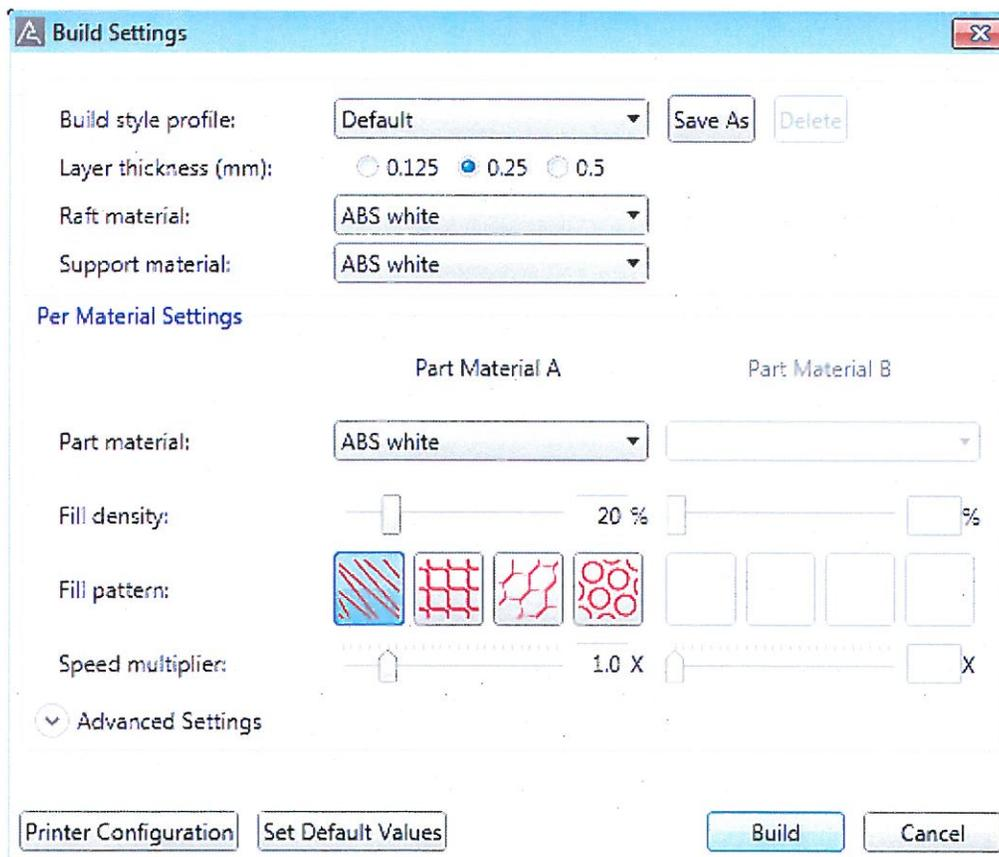

Figure 10: Build Settings
10. **CHECK** settings (Figure 10 and Table 1).